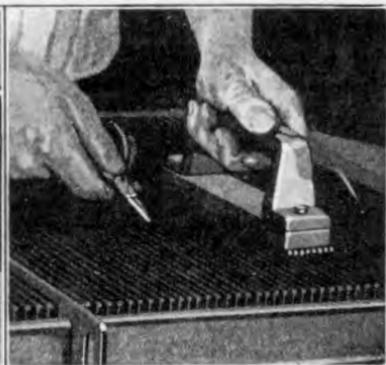

Fig. 424
- 863** If tubes are repaired, no excess solder should be left sticking to the tubes or fins. The fins should be lined up with weaver's pliers and straightened out with the comb (See Fig. 424). The face of the fins should be given a coat of black paint.